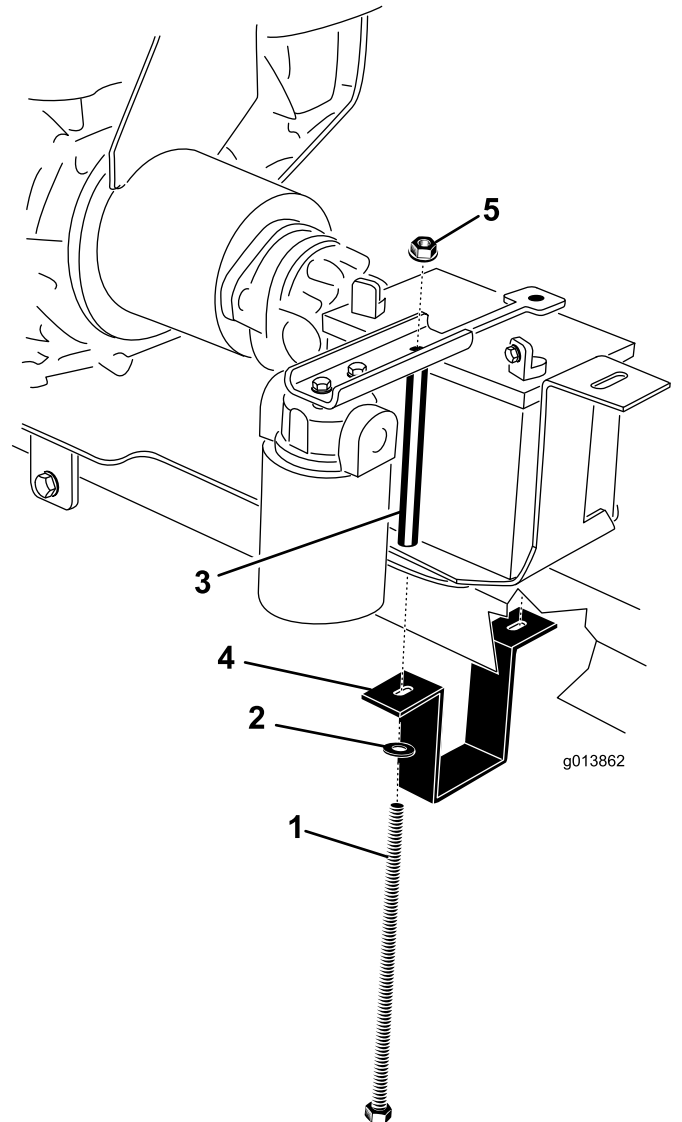

Figure 8
- Mounting bolt (2)
- Place the battery onto the battery tray, positioning the terminals as shown in Figure 8.
- Position the battery hold down on the battery (Figure 8).
- Hold the battery mount strap around the underside of the hitch tube (Figure 8).
- On the right side, install a battery bolt through the washer, battery mount strap, engine mount plate, battery tray, battery bolt spacer, and hold down. Loosely install a flange nut (Figure 8).
- On the left side, install a battery bolt through the washer, battery mount strap, engine mount plate, battery tray, battery bolt spacer, and hold down. Loosely install a flange nut (Figure 8).